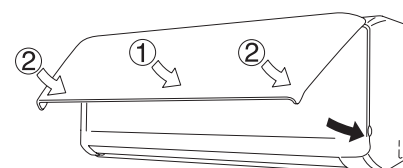

Fig. 2-212
- (6) Insert the top of the anti-mold filter, and then secure the bottom of the filter with the protrusions on the unit.
- (7) When closing the front panel, push the central part of the front panel first and then press the bottom right and left corners in place until you feel a click. (Fig. 2-212)